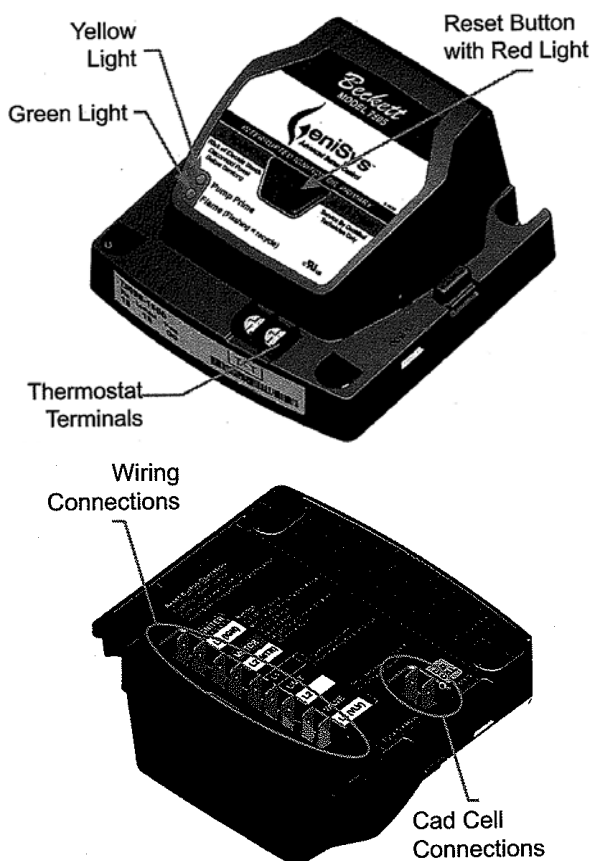

Figure 29A: GeniSys 7505 Oil Primary Terminals, LED's and Reset Button
- a. **GeniSys 7505 Control Features**, see Figure 29A.